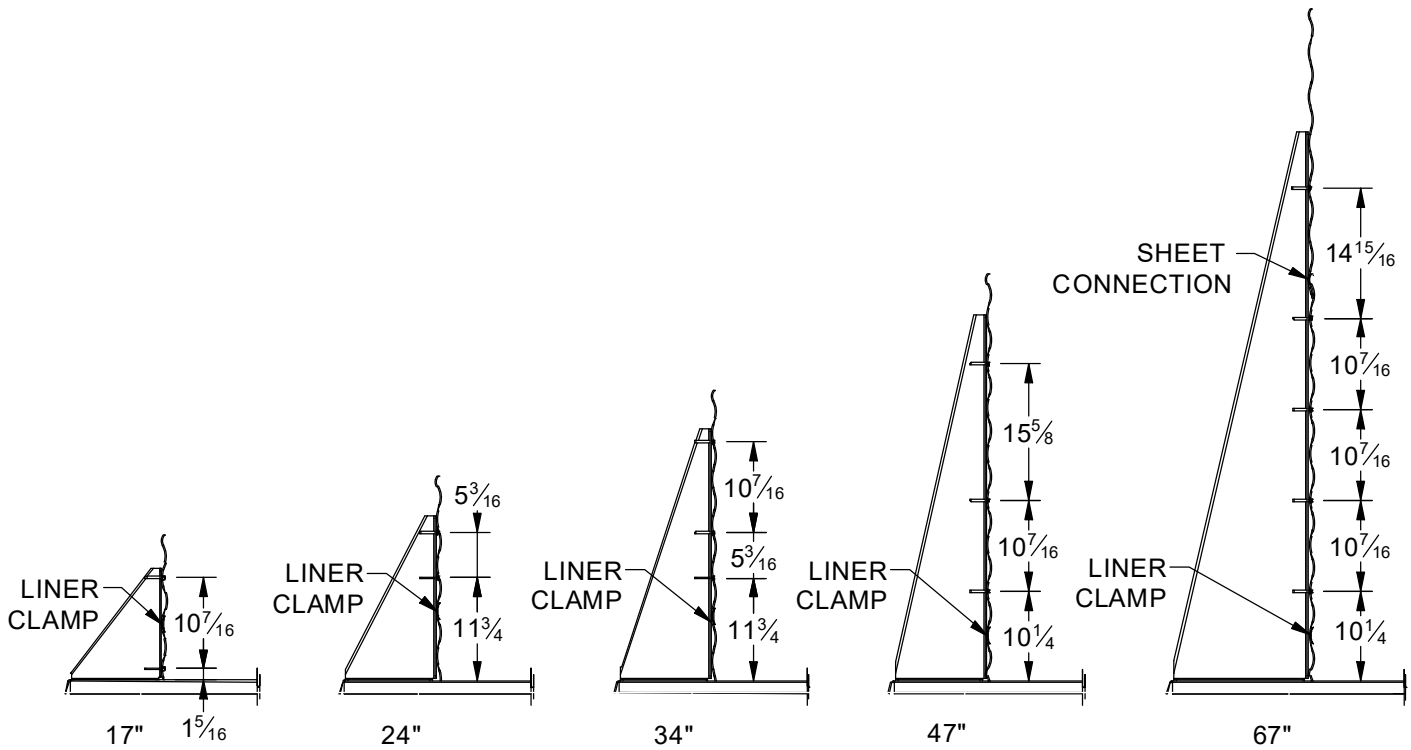

Fig 15 - Wall panel to ZGD brace screw location bottom mount
1. Based on the liner clamp location seen in Figure 15, apply two 3” strips of caulking tape vertically into the valley of the corrugation, making sure to butt up against the vertical edge of the overlapping wall sheet.